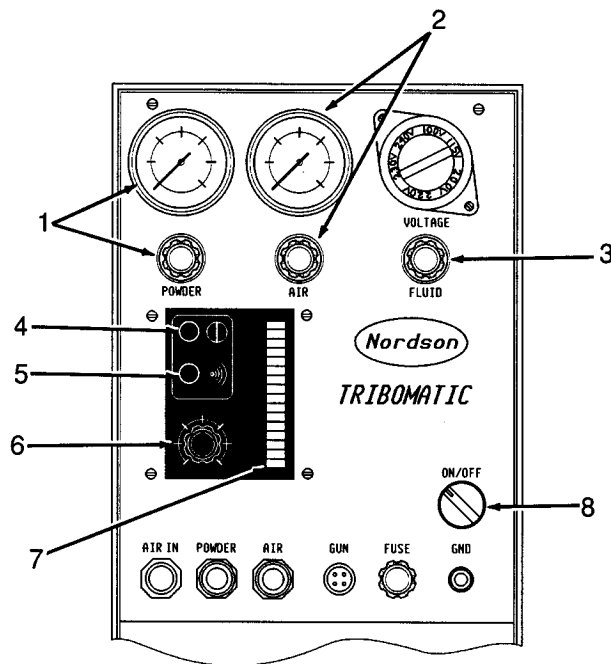

Figure 3 — Demo System Controls
3. Check trigger cable connection. Trigger switch should click when depressed. Check, at gun handle, continuity between pins 1 & 3 with trigger depressed. If trigger switch has failed, ohmmeter will show open circuit. Refer to Figure 3, Manual 37-6 for pin designations. Check for 24VDC across trigger leads at circuit board. Replace circuit board if voltage not present.